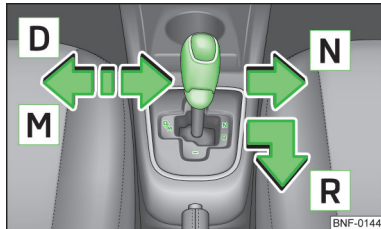

Fig. 81
The following modes can be selected with the selector lever » Fig. 81.
- Press the selector lever towards the left in the spring-tensioned position in the direction of the arrow » Fig. 81 on page 81 and insert into position **D**.